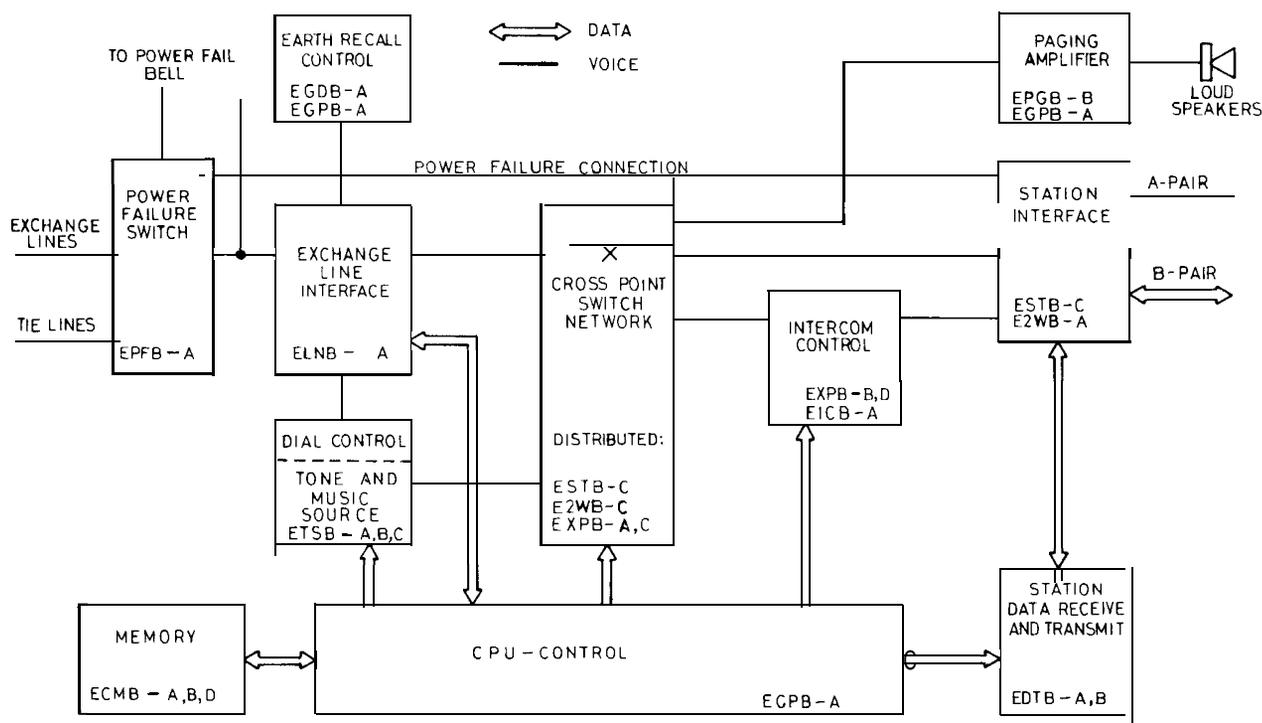

FIGURE 10 MAIN EQUIPMENT BLOCK DIAGRAM
1.4.3.2. Main Equipment Block Diagram (Figure 10)
Crosspoint Switch Network is made-up of semiconductor crosspoints and is distributed over a number of cards. This circuit which decodes the CPU order to operate the crosspoints is located on the EDTB card. Figure 10 shows how the crosspoint switch matrix is made-up.